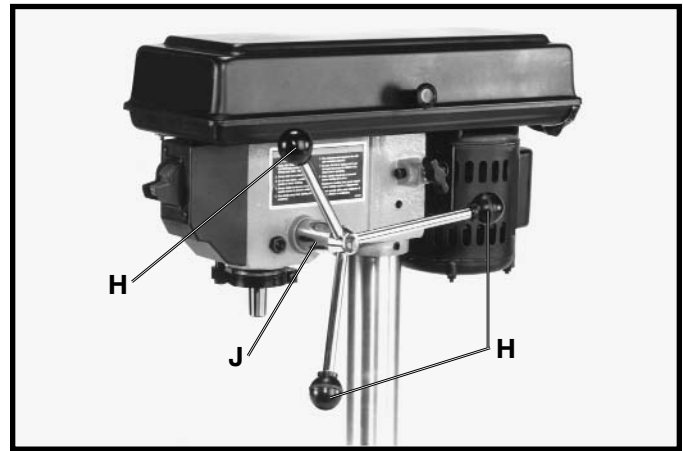

Fig. 8
5. Thread the three pinion shaft handles (H) Fig. 8, into the three holes located in the pinion shaft (J) as shown.